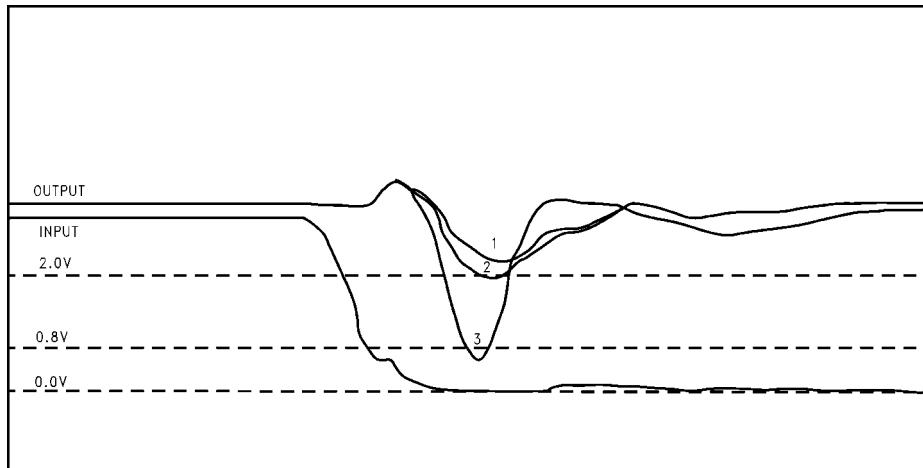
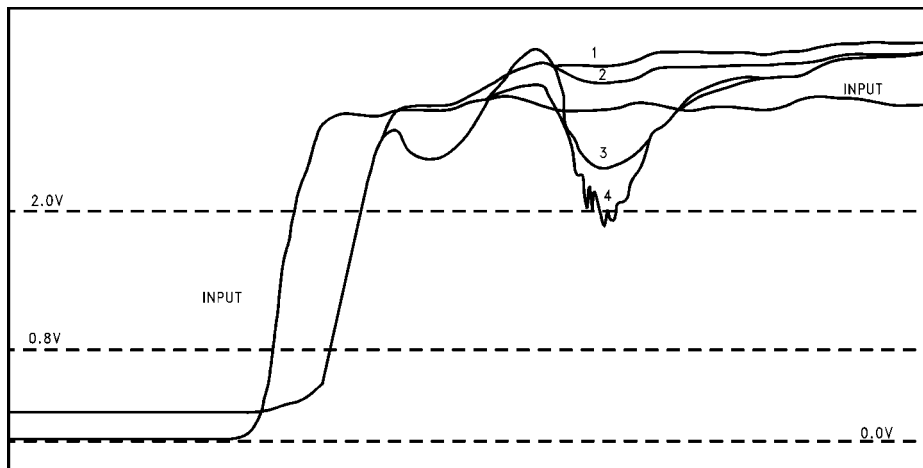

FIGURE 33. V_{IHD} 7 Outputs Switching
FIGURE 34. V_{IHD} 8 Outputs Switching
2. On a high output, the HIGH level will not drop below an input threshold high level of 2.0V after the transition of the output. Figure 33 and Figure 34. Numbered output curve deflections are a result of 10 mV incremental changes on the high input signal level.